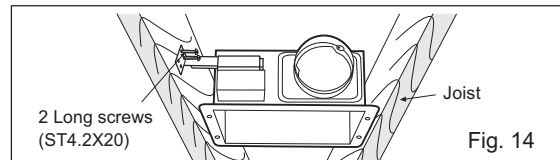
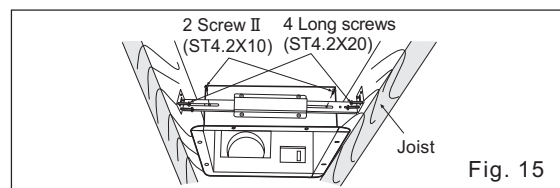

Fig. 14
Fig. 15
4. Secure the suspension bracket to joists by using long screws (ST4.2X20). (Fig. 14, Fig. 15)
5. Secure the suspension bracket to fan body by using screw II (ST4.2X10). (Fig. 15)